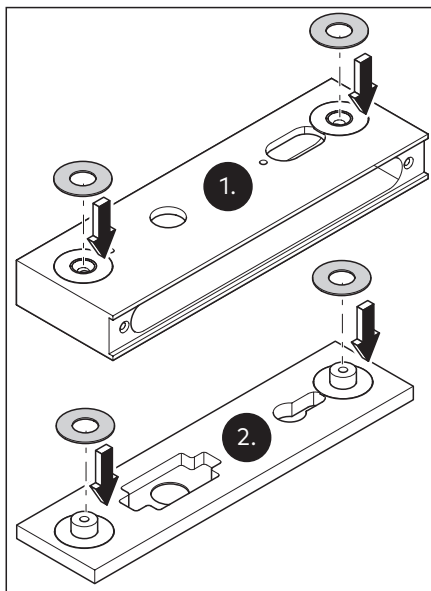

Fig. 13 Attach the gaskets.
1. Attach the gasket to the lock mortise on the glass side (Fig. 13).